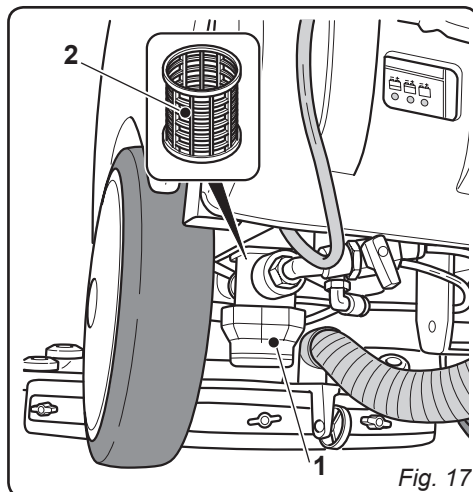

Fig. 17
11.1.d - Cleaning the clean water filter (Fig. 17)
- Unscrew the transparent filter cover (1) and remove the filter (2).
- Clean the filter (2) in running water. If it is blocked, replace it.